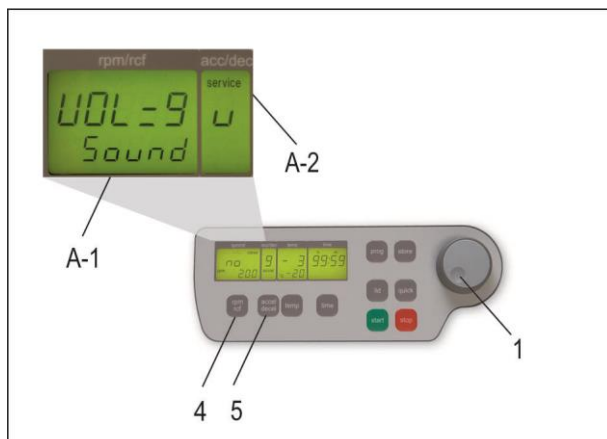

Figure 10
Proceed as illustrated under point 1.9.1 to enter this program mode, press the key "accel/decel" (5). In the display "accel/decel" (A-2) flashes the word "service". Select the letter "U" with the adjustable knob (1). As a result appearing in the display "rpm/rcf" (A-1) are the words "Vol=0-9/Sound". By pressing the key "rpm/rcf" (4), the desired volume can be adjusted between 0 (low) and 9 (loud) with the adjustable knob (1), (see Figure 10).